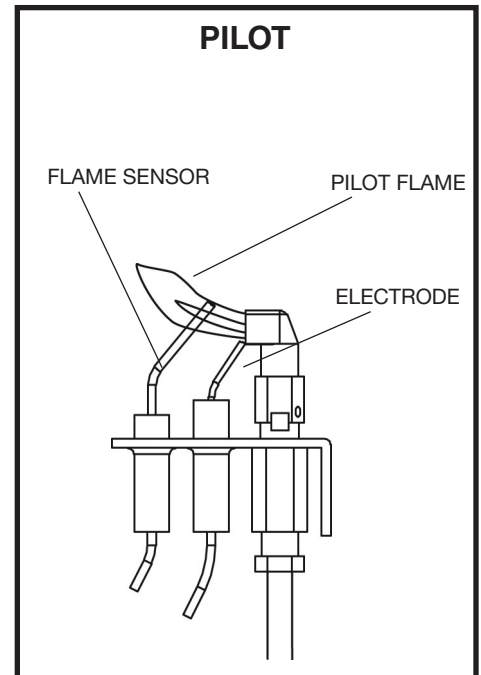

Figure 59: Pilot assembly.
- b) Check the pilot system for proper flame size and operation. Clean pilot free of soot, dust or any other deposits. (Figure 59)